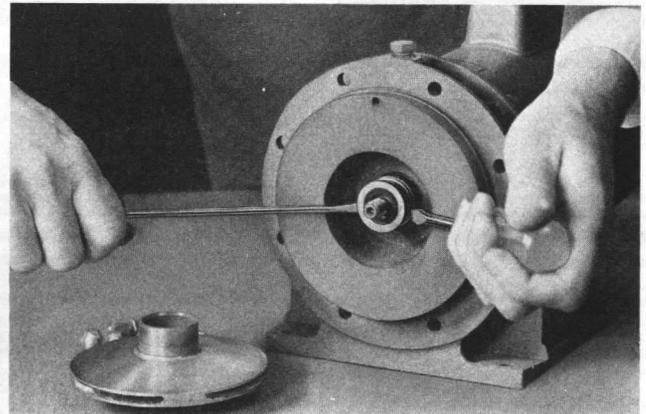

Figure 4
8. Pry off rotating member of mechanical seal from shaft by using two (2) screwdrivers (Fig. 4).